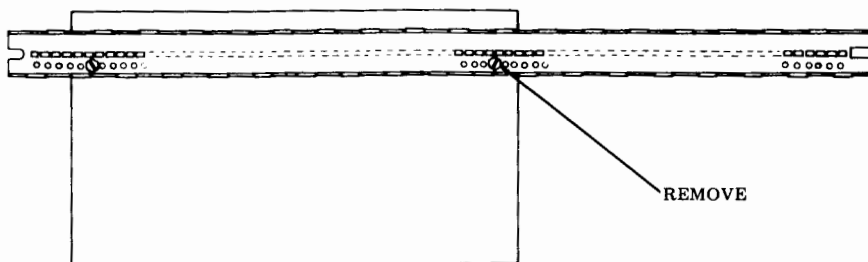

Fig. 18—Channel
- (d) Remove the screw securing the right rear side of the circuit card to the channel (Fig. 18).